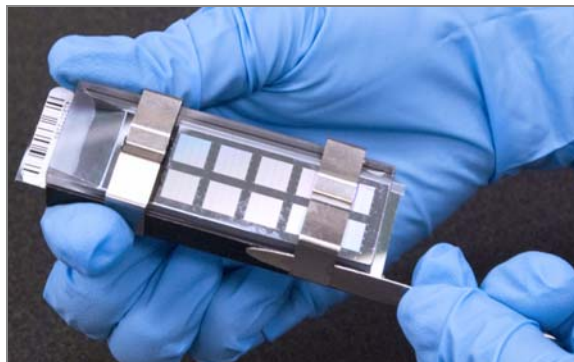

Figure 174 Removing Metal Clamps from Flow-Through Chamber
- a. Using the dismantling tool, remove the two metal clamps (Figure 174).